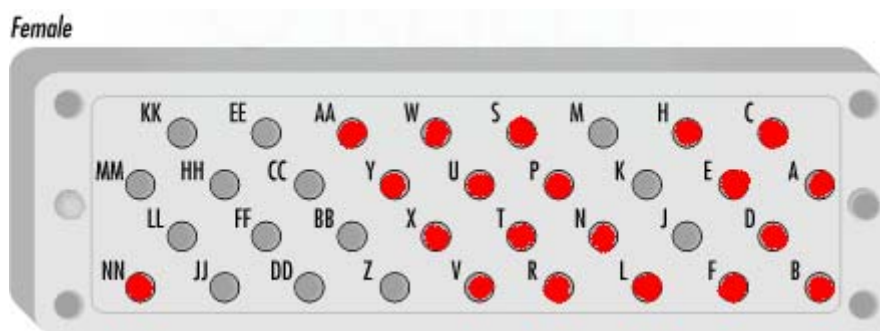

Figure 3-5 V.35 pin assignment (M34)
V.35 interface is used of standard DB-44 female connector. We provide DB-44 to M34 adaptor to user. Please refer to Figure 3-5 for V.35 pin assignment (Red filled pins are in use, rest pins are not used) and Table 3-3 for V.35 pin definition.